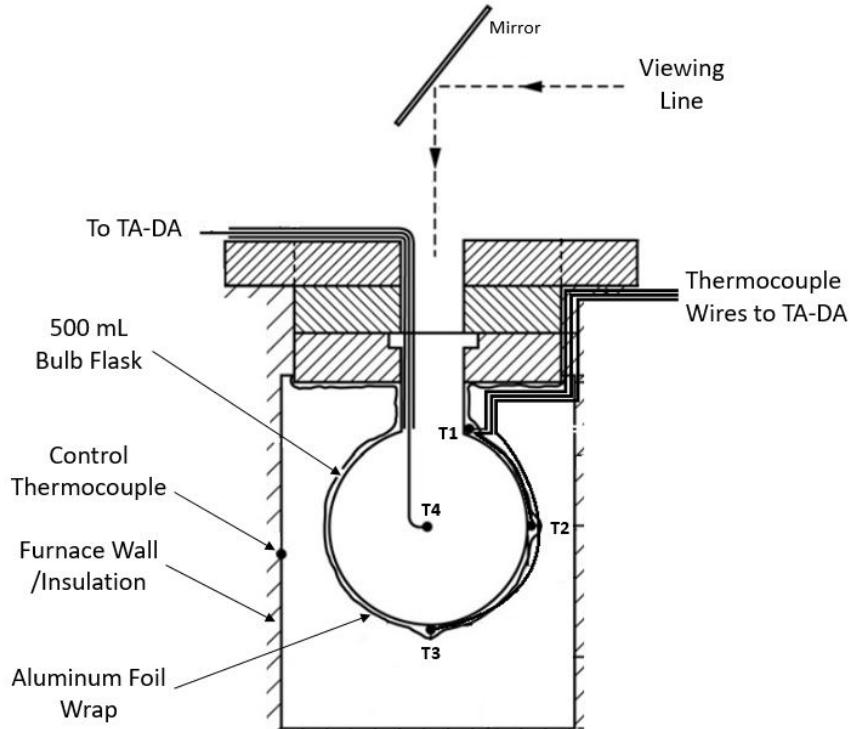

Figure 8: Diagram of the furnace when assembled
- The final setup should resemble Figure 8